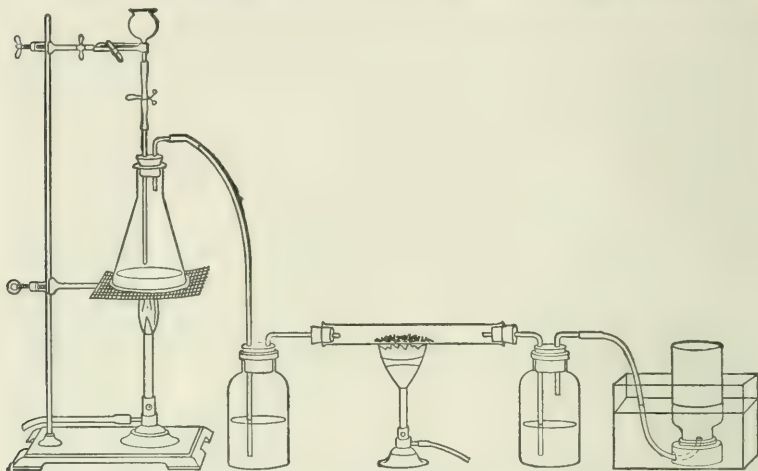

Fig. 35. Reducing copper oxide with carbon monoxide.
**Optional work.** The reducing action of carbon monoxide may be shown by passing the gas through water and then over hot copper oxide (Fig. 35). The carbon dioxide which is formed is shown by the milkiess produced in limewater. Any unchanged carbon monoxide is collected over water and then burned.